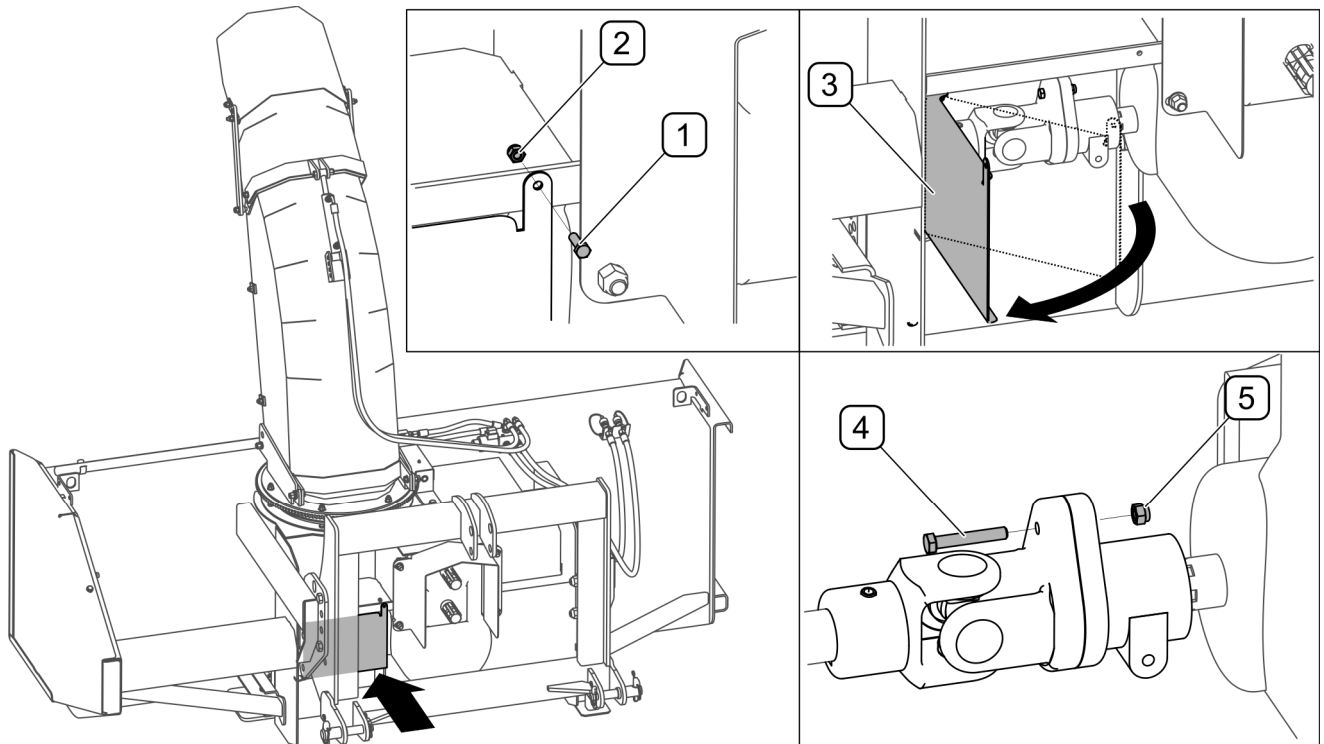

FIG. 5.4 Bolts securing the drive transmission
The snow blower's PTO shaft has a special bolt (4), which can be damaged by excessive overloading of the machine (FIG. 5.4). Before replacing bolt, check the blade, augers, discharge chute and remove the cause of machine overloading (e.g., pieces of ice, wood, stone, jammed chute, etc.) To remove blockage, use a wooden pin supplied with the machine (see 4.4.4 REMOVING BLOCKAGES).
To replace the safety bolt (FIG. 5.4), unscrew bolt (1) and open cover (3). Damaged bolt (4) should be replaced with a new one (M8x50-8.8).